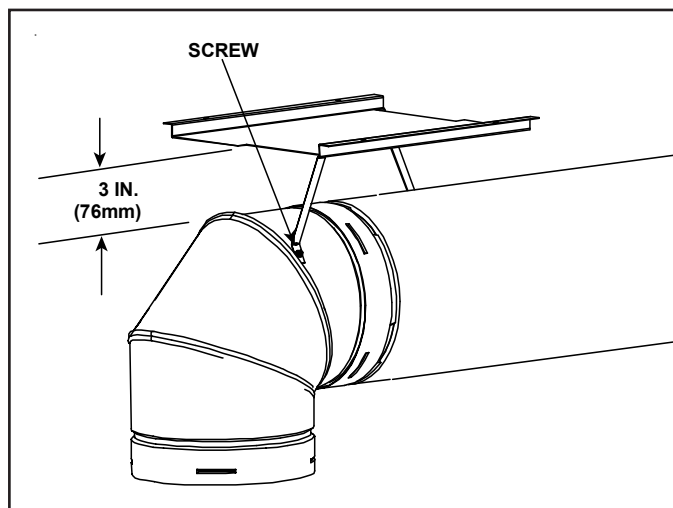

Figure 6.4. Elbow Heat Shield Installed
- If the combustibile materials are not in place at the time of install the elbow heat shield may be screwed to the exhaust pipe. See Figure 6.4. Cut the tabs as shown and bend down. Secure the heat shield to the pipe maintaining 3" to 4" between the pipe and shield.
- 90° elbows may be installed and rotated to any point around the preceding component's vertical axis. If an elbow does not end up in a locked position with the preceding component, attach with a minimum of two (2) sheet metal screws.